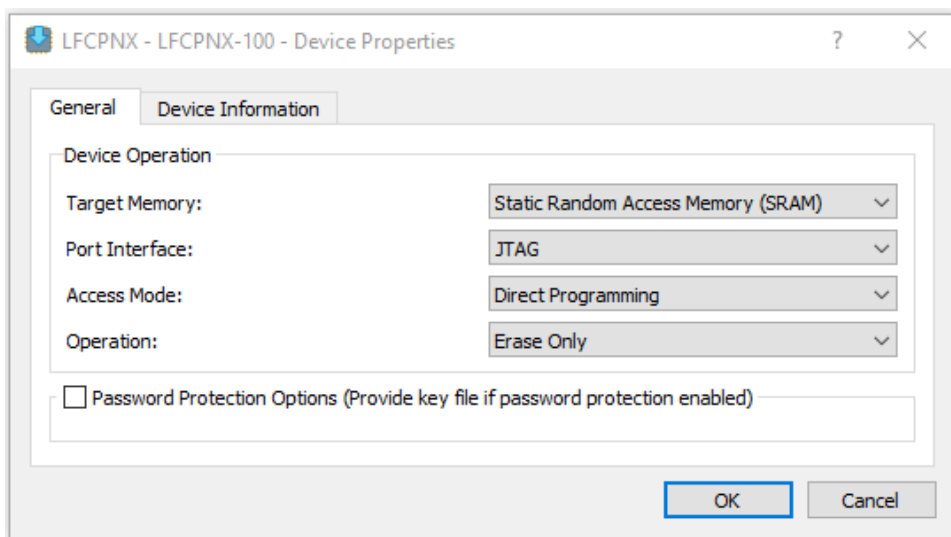

Figure 4.5. Radiant Programmer – Device Operation
5. Select **JTAG** for Port Interface, **Direct Programming** for Access Mode, and **Erase Only** for Operation, as shown in Figure 4.5.